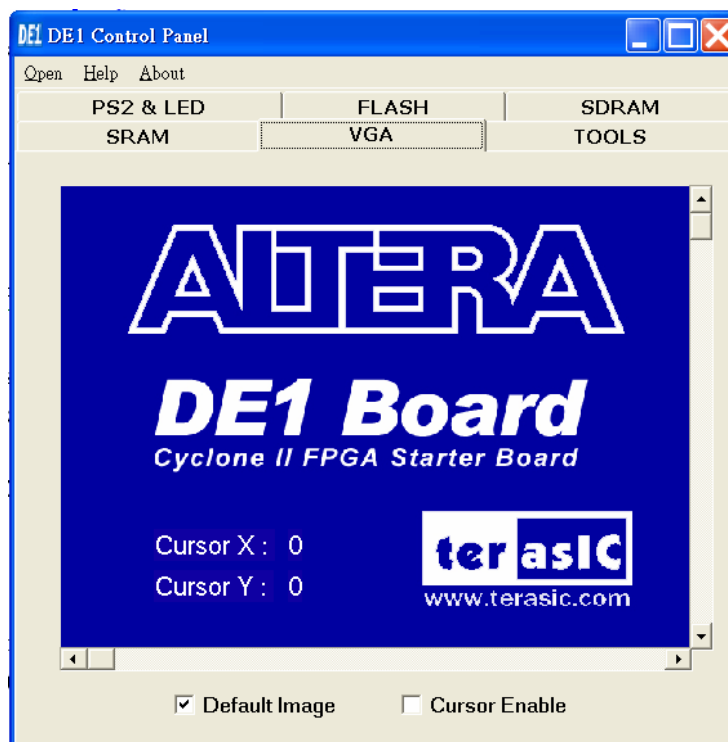

Figure 3.9. Displayed image and the cursor controlled by the scroll bars
- Select the VGA tab in the Control Panel to reach the window in Figure 3.9.
- Connect a VGA monitor to the DE1 board and you should see on the screen the default image shown in Figure 3.9. The image includes a cursor which can be controlled by means of the X/Y-axes scroll bars on the DE1 Control Panel.
The image in Figure 3.9 is stored in an M4K memory block in the Cyclone II FPGA. It is loaded into the M4K block in the MIF/Hex(Intel) format during the default bit stream configuration stage. We will next describe how you can display other images and use your own images to generate the binary data patterns that can be displayed on the VGA monitor.